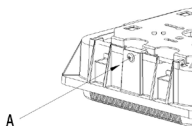

Fig. 2
1. Loosen, but do not remove screw A (Fig. 2). This will hold the mounting plate in place.
1. Slide the mounting plate toward Screw A and remove it from the fixture's body (Fig. 2, 3, and 4).